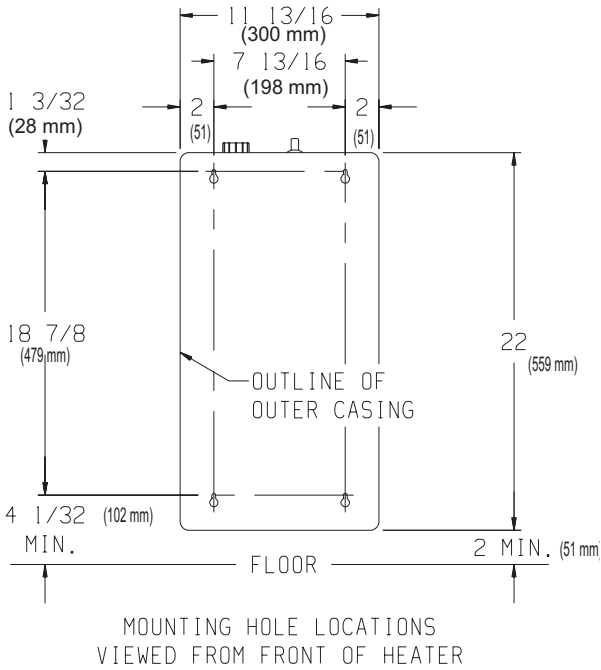

Figure 7 (SR-10T)
Refer to Figures 7, 8 and 9 for measurements in order to locate (4) mounting holes on wall. Figures 7, 8 and 9 are the front views of the heaters.